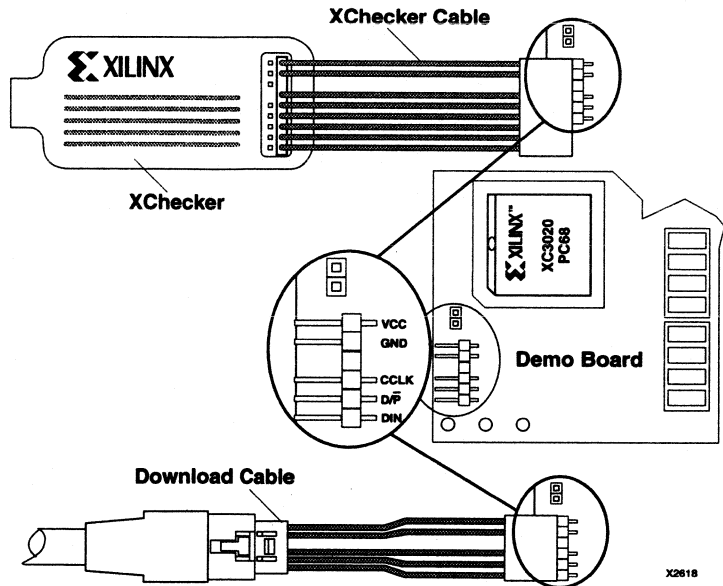

Figure 1-5 Connecting XChecker/Download Cable to Demo Board
3. Connect the XChecker or Download cable to the demo board, as shown in Figure 1-5.